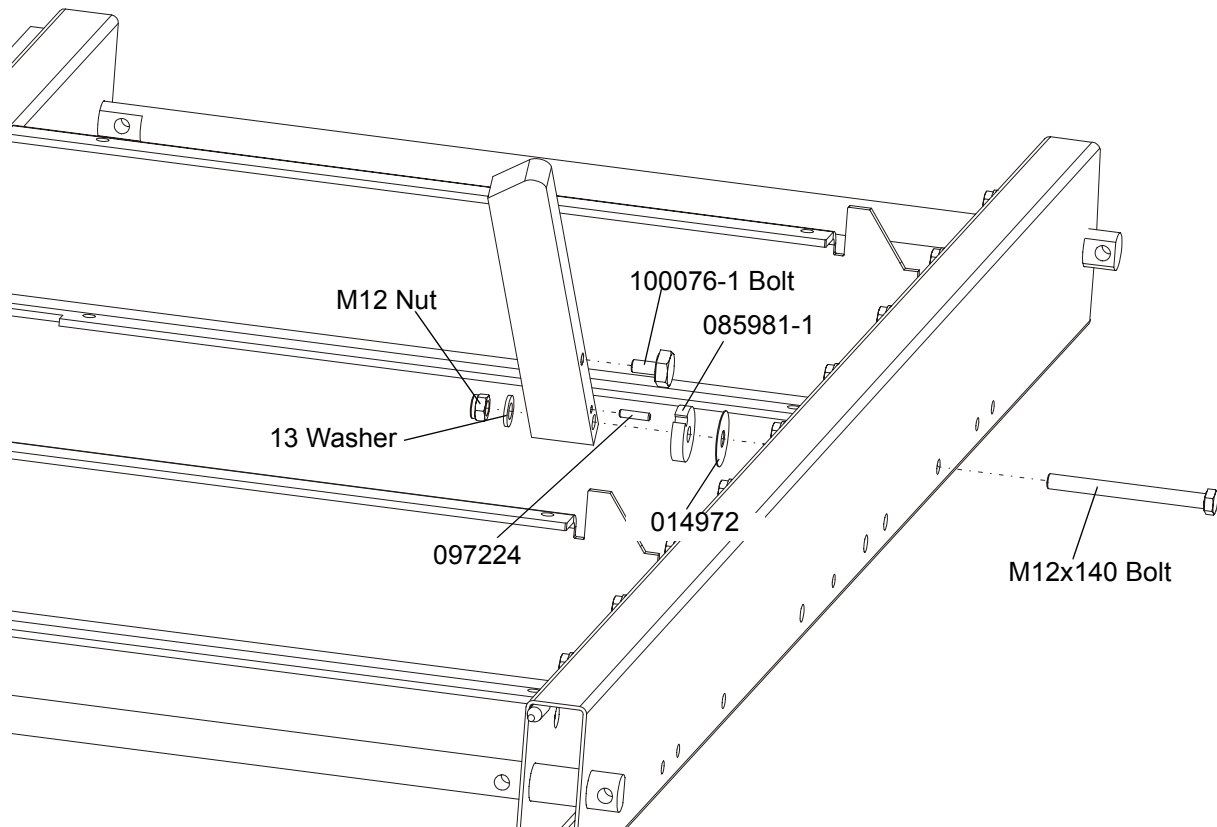

FIG. 3-8
- 9. Install the log side supports as shown in the Figure 3-8. Tighten the nuts so that the side supports can be moved with little resistance. Adjust the side supports. *See Section 6.11 of the LT15 sawmill Operator's Manual.*
See Figure 3-8.